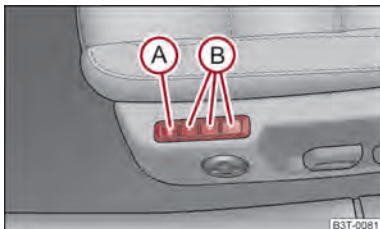

Fig. 58 Driver seat: Memory buttons and SET button
- Press button **SET** (A) ⇒ fig. 58.
- Press one of the memory buttons (B) within 10 seconds after pressing the button **SET** - an acknowledgement signal confirms that the seat setting is stored..
Memory for the seat offers the possibility to store the individual driver seat and external mirror position. An individual position can be allocated to each of the three memory buttons (B) ⇒ fig. 58, that is three in total. After pressing the corresponding memory button (B), the seat and the exterior mirror are automatically moved into the positions which have been allocated to this button ⇒ page 75.
- **By pressing briefly:** briefly press the desired memory button  ⇒ fig. 58. The seat and exterior mirror are moved automatically into the stored positions (this applies only if the ignition is switched on and the speed is less than 5 km/h).